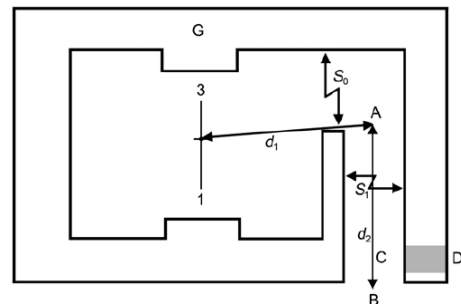

Fig. 2.8. Room layout for calculating neutron capture gamma-ray and neutron dose equivalents at the maze door.
In this application of Kersey's method, H_0 is the total (direct plus room-scattered plus thermal) neutron dose equivalent at a distance d_0 (1.41 m) from the target per unit absorbed dose of x rays at the isocenter (mSv Gy^{-1}) (see Table B.9 in Appendix B for measured values of H_0). The ratio S_0/S_1 is the ratio of the inner maze entrance cross-sectional area to the cross-sectional area along the maze (Figure 2.8). These are usually different primarily because of their different widths, though the height may change also due to the use of lintels above the inner maze entrance. Distance d_1 , which is shown in Figure 2.8, is the distance from the isocenter to the point on the maze centerline from which the isocenter is just visible (A). For a maze with one bend as illustrated, d_2 is the distance in meters from A to B. In the case of a maze with two bends, d_2 is the distance from A to C plus length C to D. Note that for this method the maze has a TVD of 5 m for the attenuation of neutrons in the maze.